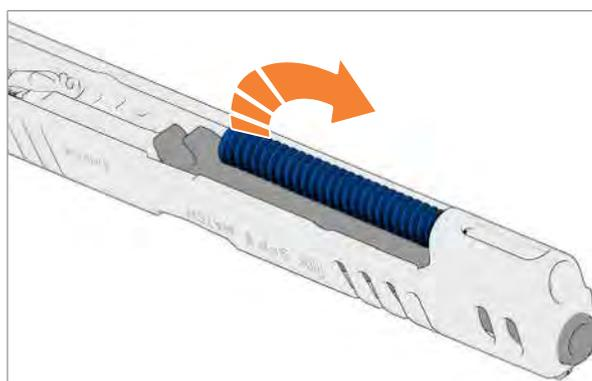

Fig. 59: Removing the recoil spring
6. Remove recoil spring from slide (*Fig. 59*).